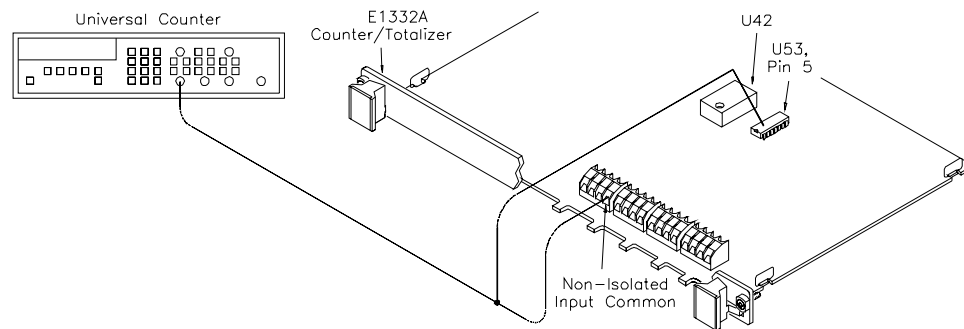
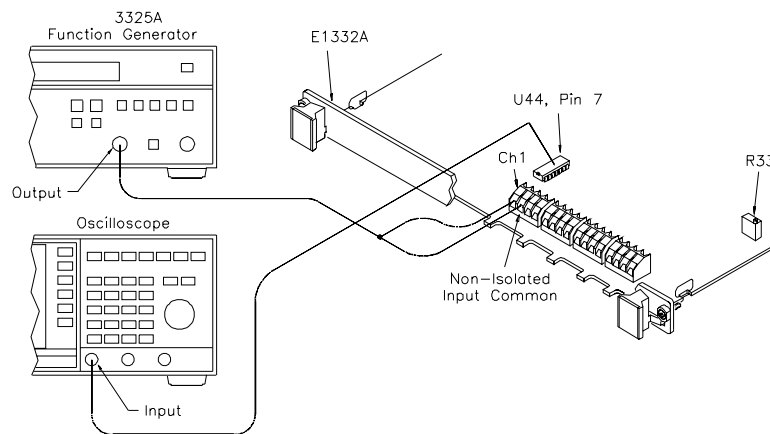
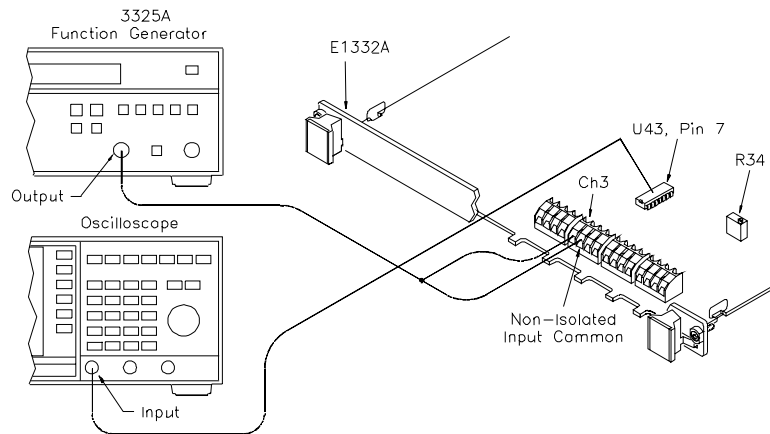
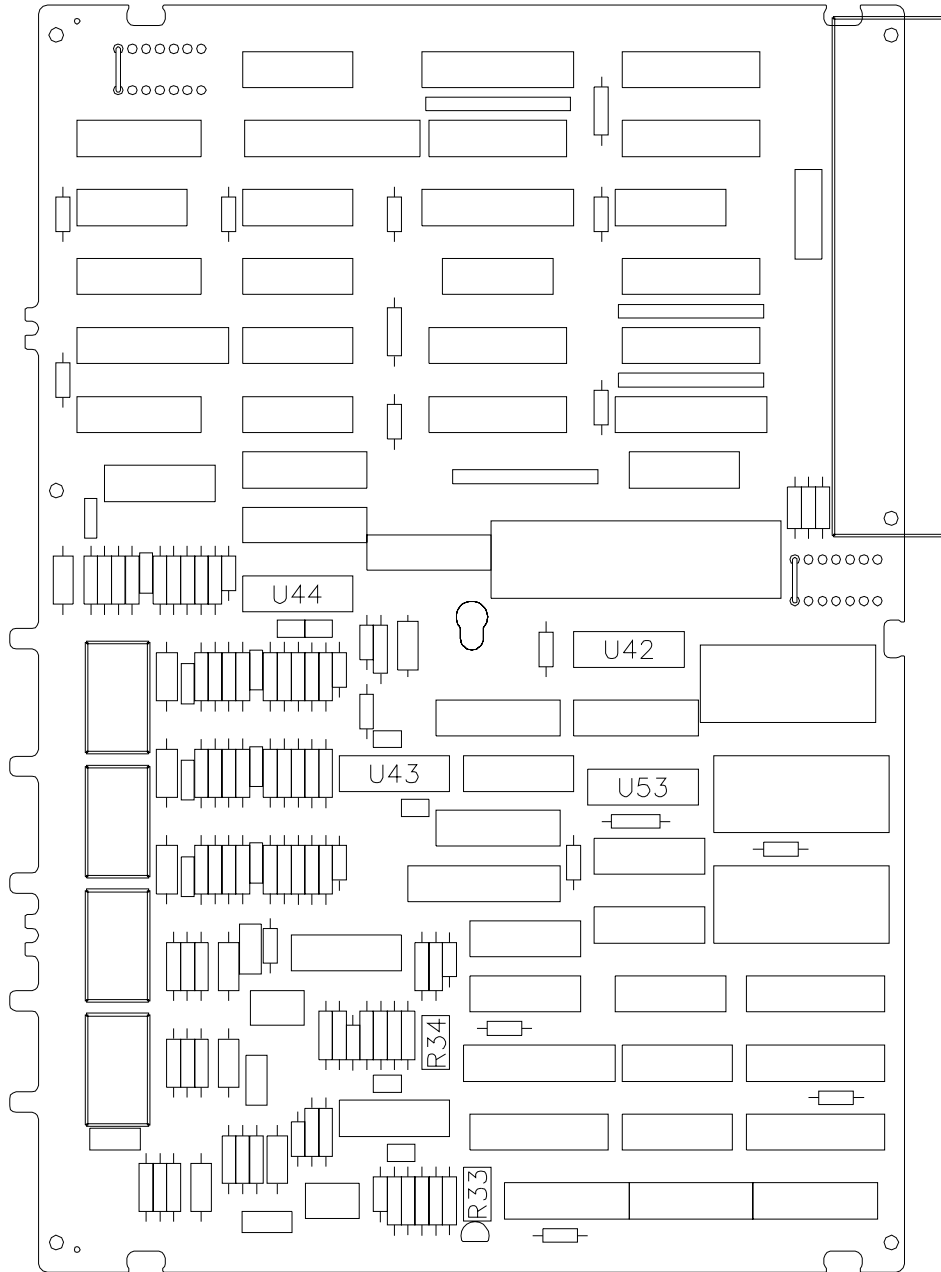

Figure 5-1. Reference Oscillator Adjustment Setup
Figure 5-2. Ch. 1/2 Trigger Level Zero Adjustment
Figure 5-3. Ch. 3/4 Trigger Level Zero Adjustment
Figure 5-4. Locations of Key Components
1. Connect the equipment as shown in Figure 5-1. If necessary, consult Figure 5-4 for component locations.
1. Connect the equipment as shown in Figure 5-2. If necessary, consult Figure 5-4 for component locations.
1. Connect the equipment as shown in Figure 5-3. If necessary, consult Figure 5-4 for component locations.